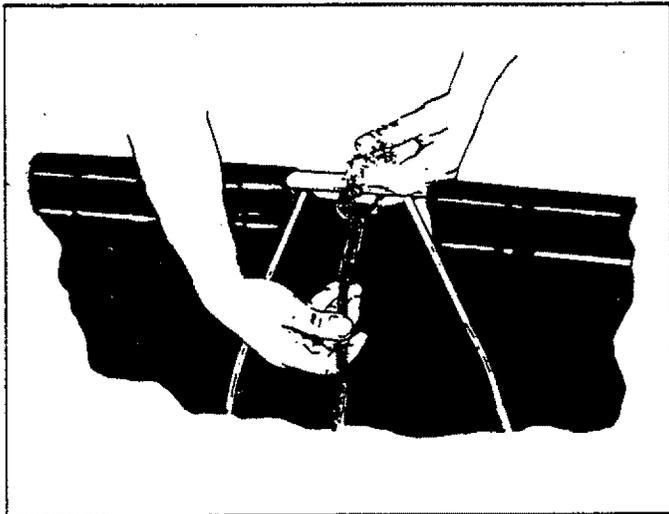

FIGURE 24
16. Secure the rope to the top center of hopper bag frame as shown in figures 24, and 25.